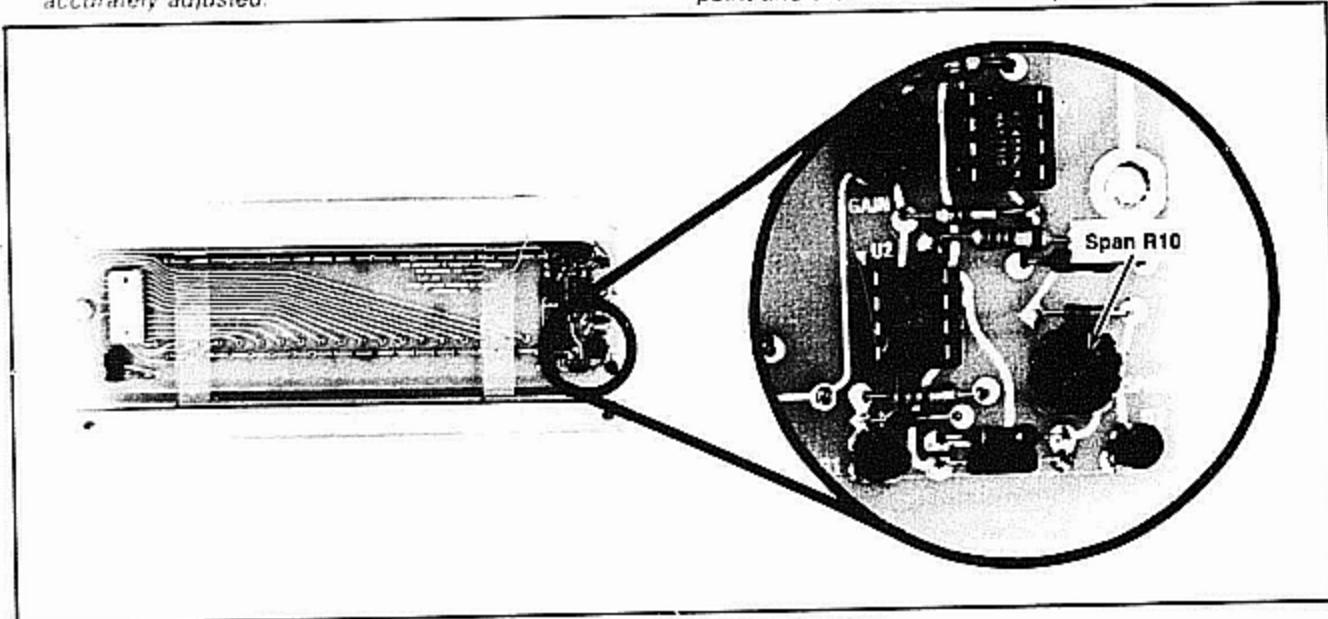

Fig. 7. Location of Span R10.
b. ADJUST—Span R10 (see Fig. 7) for exactly 9 divisions of horizontal deflection between the first break point and the nineteenth break point.